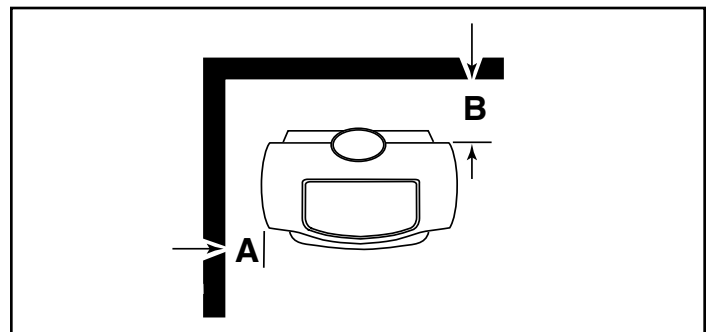

Figure 3.6 - Minimum clearances.
**Minimum rear clearance from combustible walls (e.g. timber framed or studded walls) 400 mm measured from the rear edge of the stove top. (Figure 3.6, B)**
**Minimum side clearance from combustible walls 400 mm measured from the side edge of the stove top. (Figure 3.6, A)**